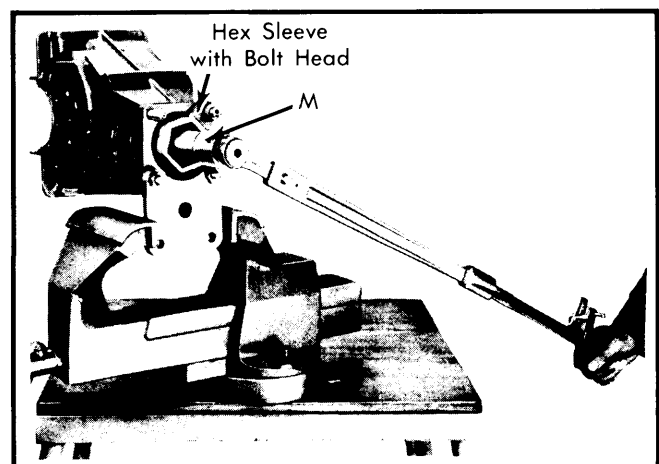

Fig. 9 Using Special Socket to Remove Drive Pinion
2) Loosen vise and rotate holding fixture to allow front of housing to be in horizontal position. Install special spanner tool N (hex sleeve with bolt tang) over end of drive pinion nut and secure to holding fixture with bolt through tang. See Fig. 9. Install drive pinion holder M (splined socket) over pinion spline. To loosen drive pinion nut, pinion spline is turned clockwise while holding nut steady.